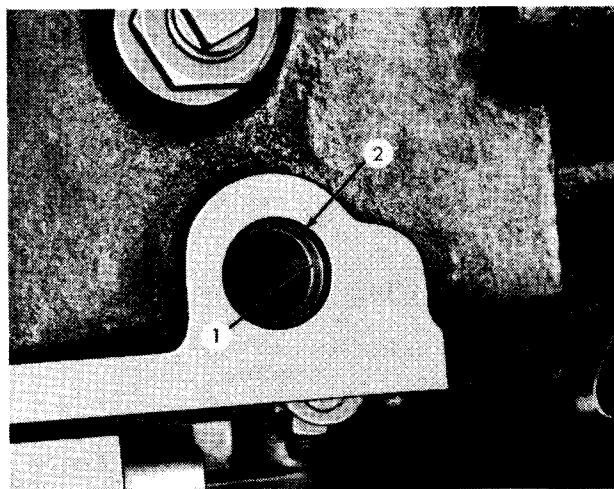

FIG. 3
1. With a screw driver, blunt the leading edge of the selector shaft bore (1, Fig. 3) at
- the base of the packing gasket counterbore (2) to prevent scuffing the "O" ring seal during installation. Clean the selector shaft bore in the transmission case and lubricate the bore with 10W engine oil.
2. Install a new packing gasket, Part No. 529677 in the counterbore (2, Fig. 3) in the transmission case.